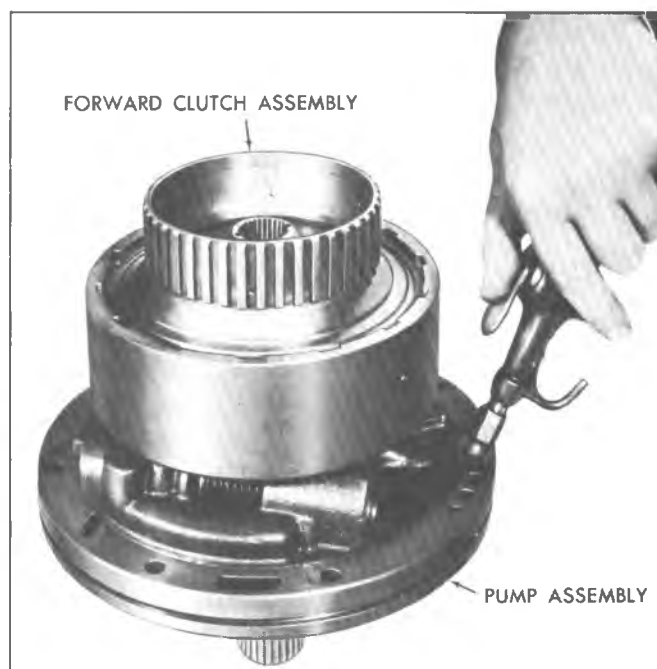

Fig. 77T--Air Checking Forward Clutch Assembly
12. Place forward clutch housing on pump delivery sleeve and air check clutch operation (fig. 77T).